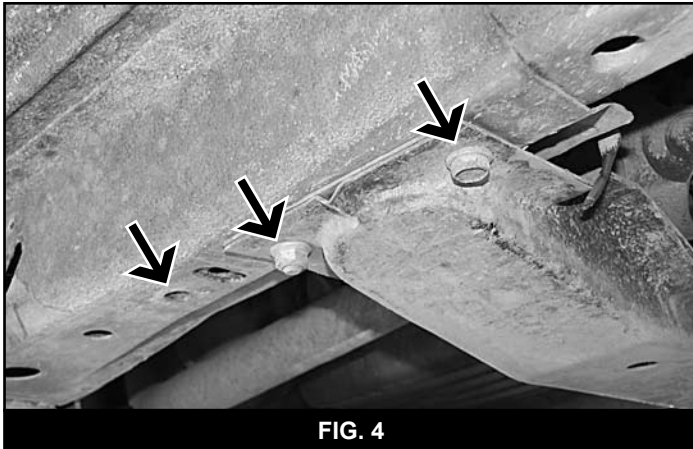
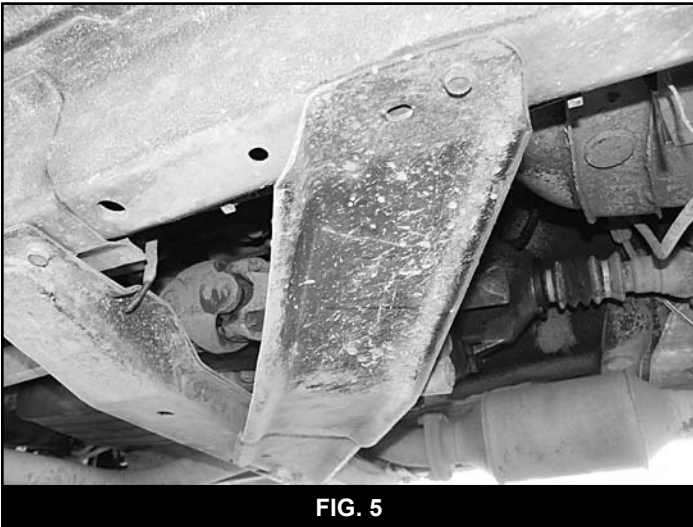

FIG. 4
FIG. 5
11. Remove the nuts/bolts retaining the crossmember to the frame and remove the crossmember from the vehicle (Fig 4). **Note:** If equipped with a factory installed transfer case skid plate, remove that as well (Fig 5). It will not be reused.
12. Some models may use a combination of threaded studs/nuts and bolts to fasten the OE crossmember (Fig 4). If this is the case, the threaded studs must be removed. The studs can be removed by either clamping vise grips on it, using the double nut method or tack welding a nut to the stud and using a wrench to remove it.
13. Locate the third threaded hole in the uni-body rails just ahead of the two that were used to mount the OE crossmember (Fig 4). Ensure that the threads are clean of dirt and rust. These holes will be used to mount the new crossmember in conjunction with the original two holes (per side).